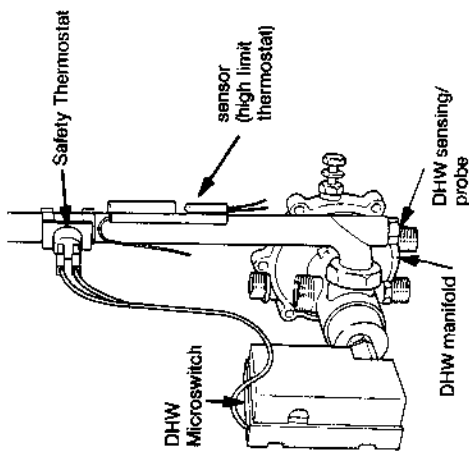

Fig. 41
- Refer to fig. 41
8.22.27 Unscrew sensing probe from bottom of main flow tube, (fig. 41)
Refer to fig. 41